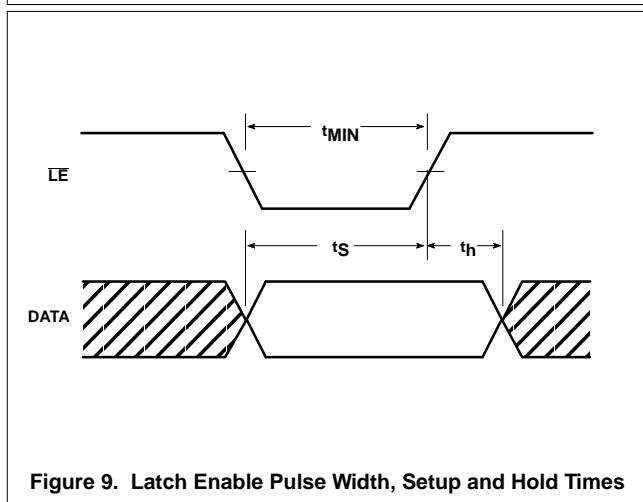

Figure 9. Latch Enable Pulse Width, Setup and Hold Times
6. See Figure 9.
To be compatible with a bus-oriented system, the DAC should respond in as short a period as possible to insure full utilization of the microprocessor, controller and I/O control lines. Figure 9 shows the typical timing requirements of the latch and data lines. This figure indicates that data on the data bus should be stable for at least 50ns after  $\overline{LE}$  is changed to a high state.